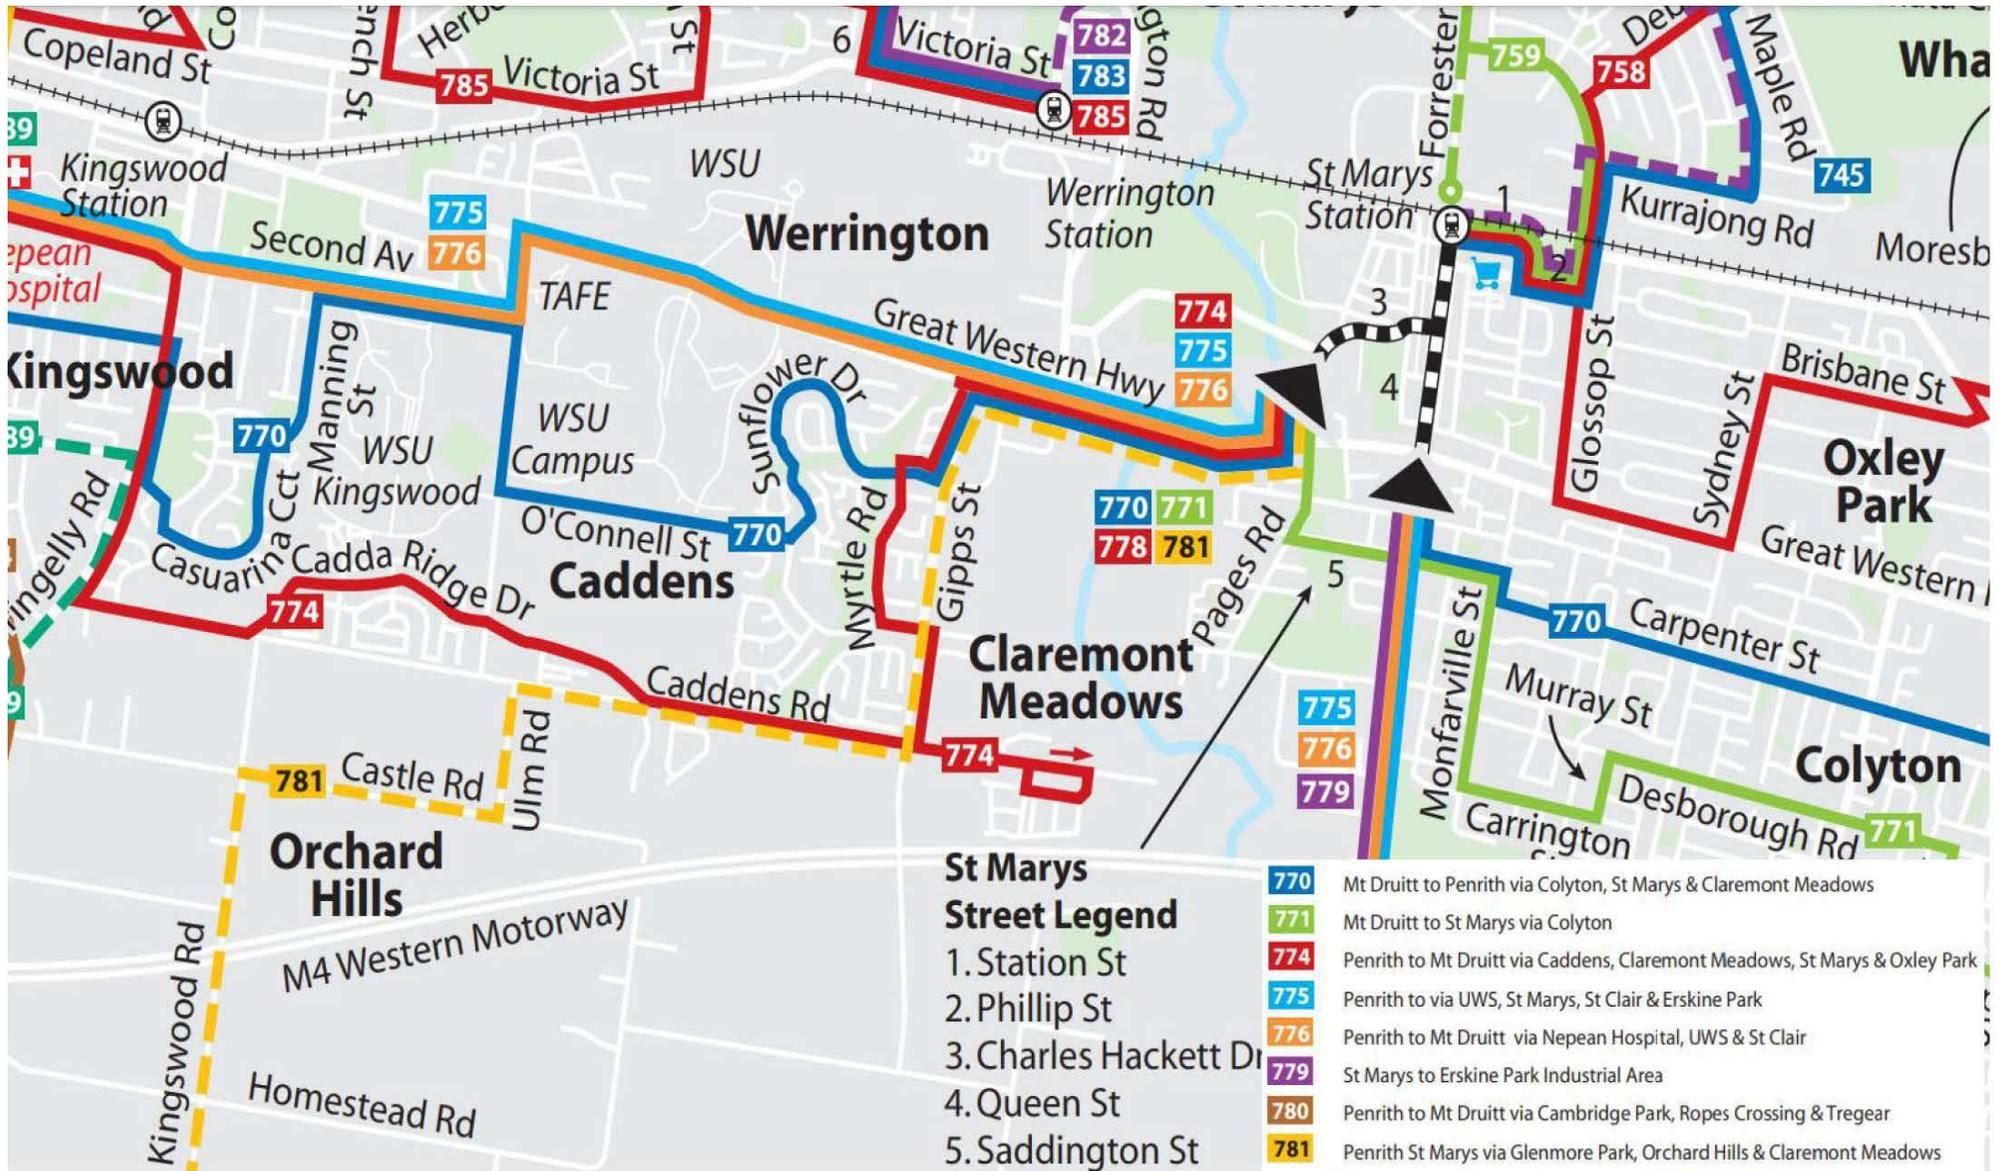
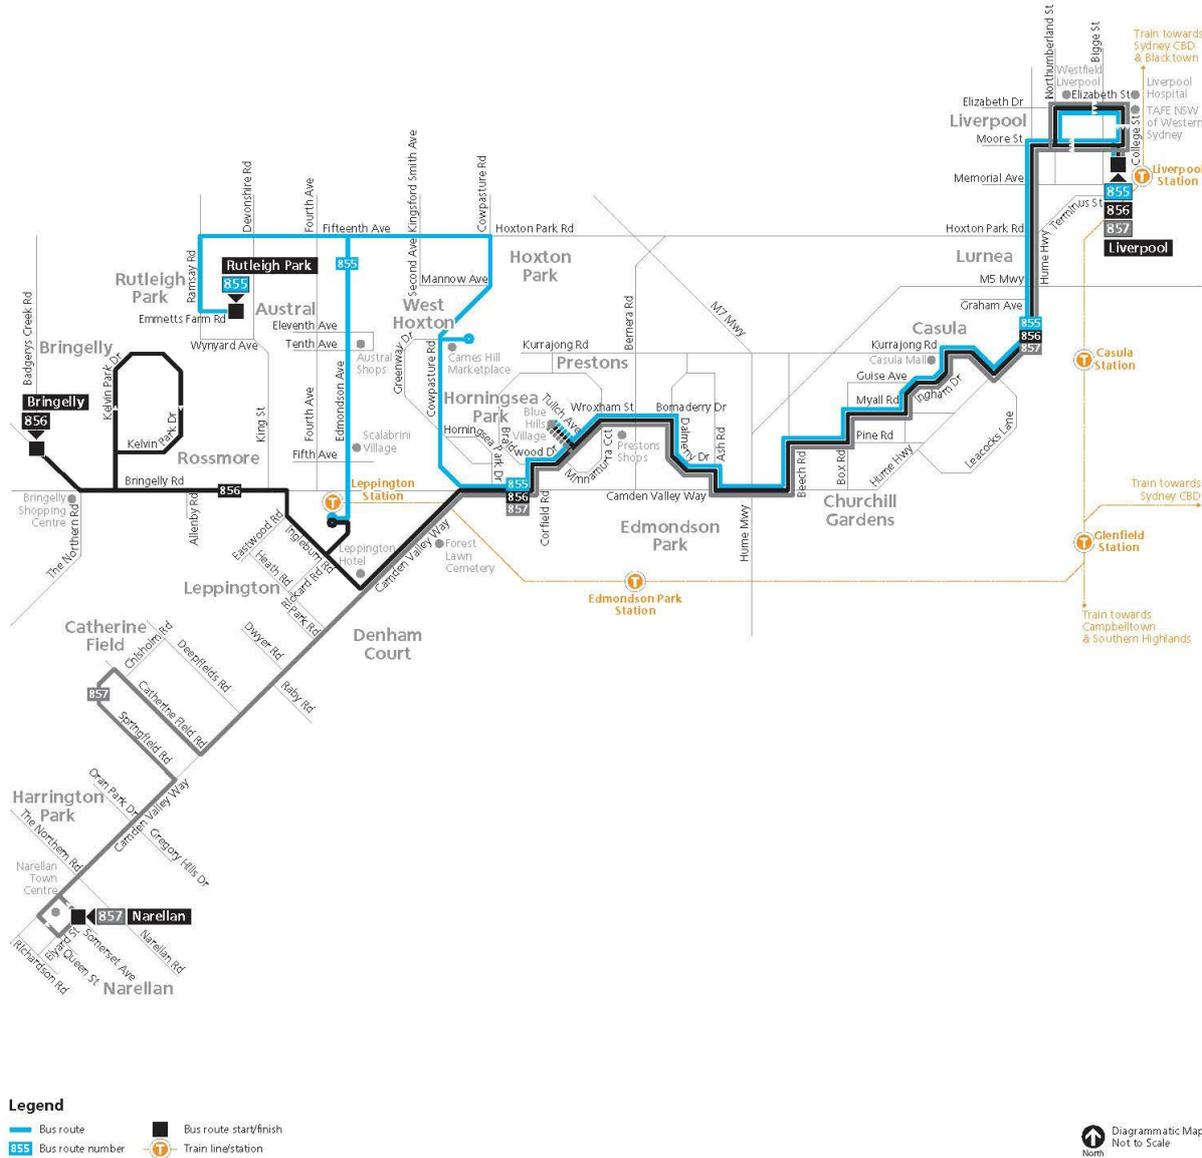

Figure 5.3 Busway's route map
Figure 5.7 Interline Bus 856 route map
Overall bus routes through the six (6) portions of works and surrounding area are shown in Figure 5.3, Figure 5.4, Figure 5.5, Figure 5.6 and Figure 5.7 below: